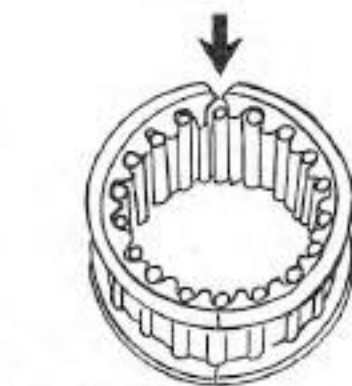
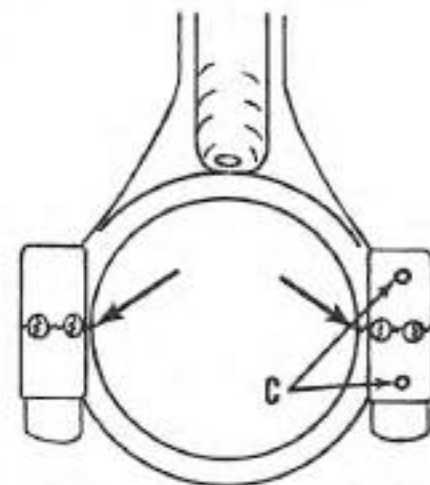

Fig. Mc63—Connecting rod bearing cages have one ground corner as indicated by arrow. Ground corners must be matched during assembly.
Fig. Mc64 — Uneven fractured parting line of rod and cap (shown by arrows) assures positive fit after assembly. Be sure correlation marks (C) are aligned.
Connecting rod bearing is of the caged roller type as shown in Fig. Mc63. Cages and rollers are available as an assembly only, and the parts should be kept together and not interchanged. Examine bearings for wear, pitting or other damage, and bearing surface of rod and cap for roughness, scoring, wear or heat discoloration. When installing connecting rod bearings, make sure cage is properly installed, with the matching ground corners aligned as shown by arrow. Parting faces of rod and cap are not machined, but are fractured at point of arrows, Fig. Mc64, to provide positive location. When installing cap, make sure the correlation marks (C) are aligned; then shift cap back and forth a slight amount while tightening, until fractured sections are in perfect mesh. When tightened completely, the parting line of rod and cap is practically invisible. When installing the connecting rod, the side marked "TOP" should face flywheel end of crankshaft.